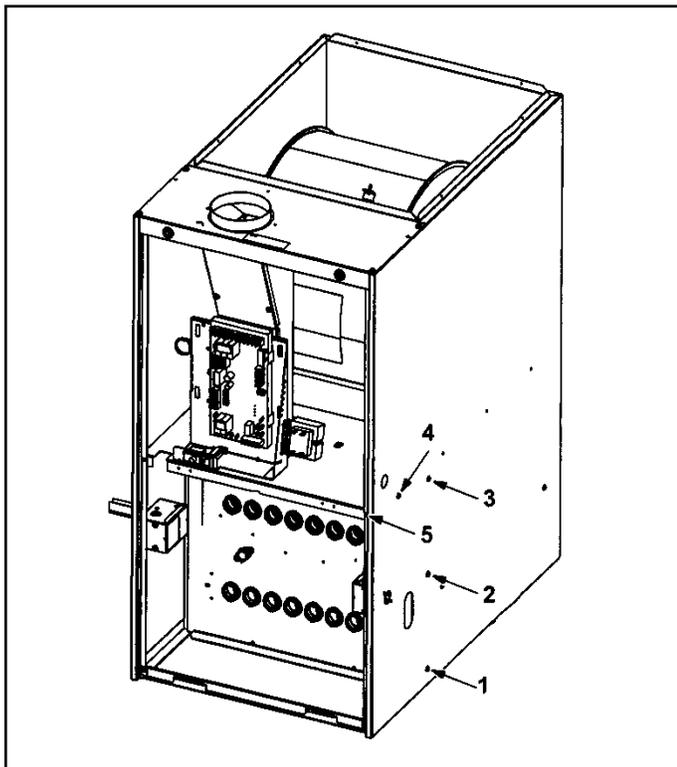

Figure 32. Remove 5 Screws if Necessary
10. Remove heat exchanger. It may be necessary to spread cabinet side to allow more room. If so, remove five screws from the left side or right side of cabinet. See Figure 32.